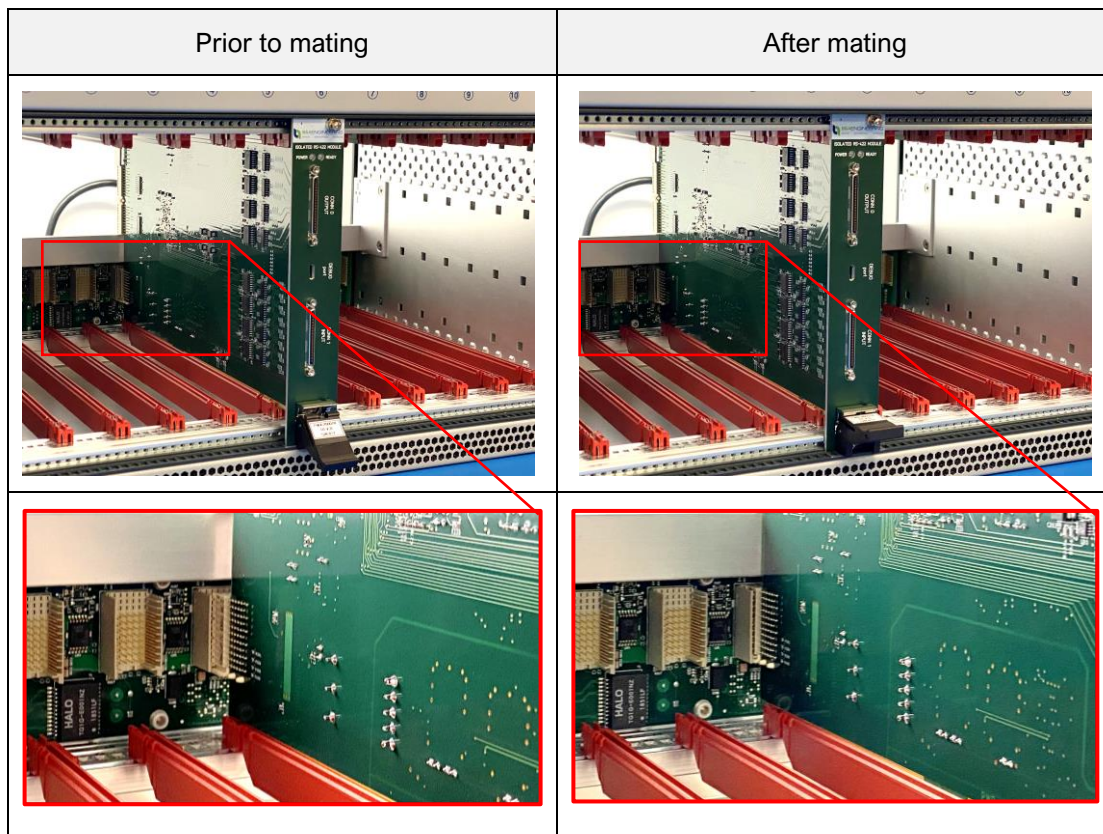

Figure 8. Mating of Module with Chassis Backplane Connector
- 6) Slide the module in and ensure that it is guided within the top and bottom red slot of the chassis. Push in the module up to a point where resistance is felt. Push up the injector/ejector handle and the module connector will mate with the chassis backplane connector as shown in Figure 8.